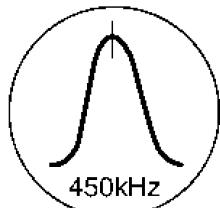

Fig. 6
- Adjust Z2602 so that the output frequency is maximized in Fig. 6.